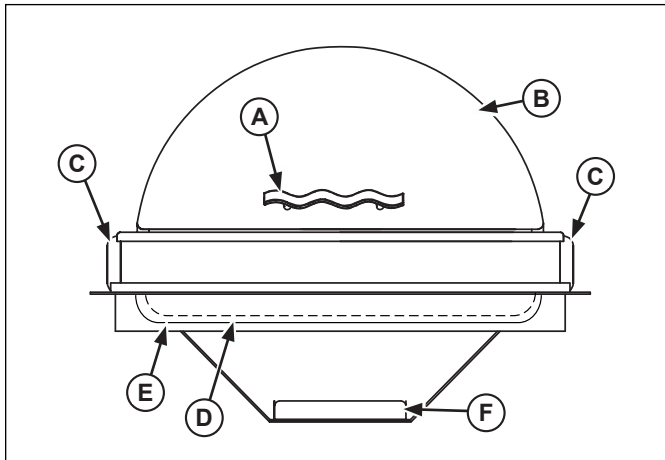

Figure 7. Drop-In Chafers Features and Controls.
- (A) COVER HANDLE. Used to open and close the cover.
- (B) COVER. Covers the food/beverage product.
- (C) HINGE. Allows the cover to rotate.
- (D) FOOD PAN. Holds the food product.
- (E) WATER PAN. Holds the water.
- (F) HEATER/FUEL TRAY. Holds the electric chafers heater.
1. Remove the food pan (D) from the water pan (E). See Figures 7.
2. Pour about 2 quarts (2 L) of clean fresh water into the water pan (E).